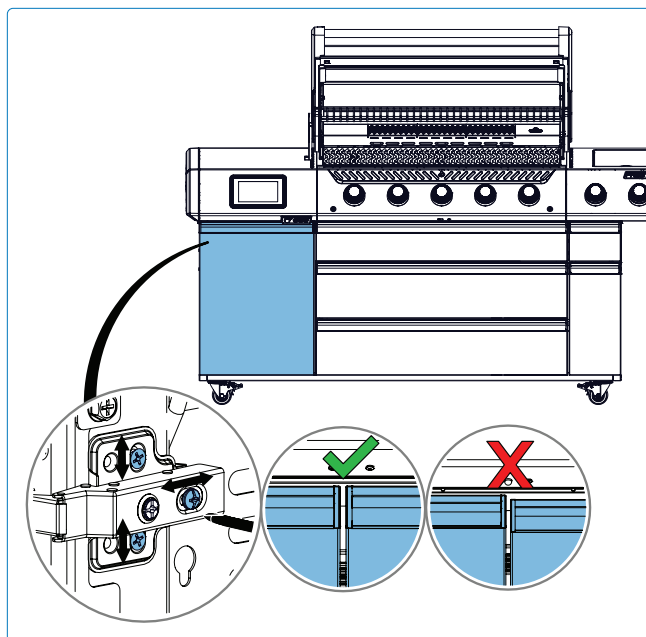

Fig. 21
1. Locate the adjustment bracket at the top of the door (**Fig. 21**).
4. Adjust the hinge screws to align the cabinet doors so they are level with each other (**Fig.21**).